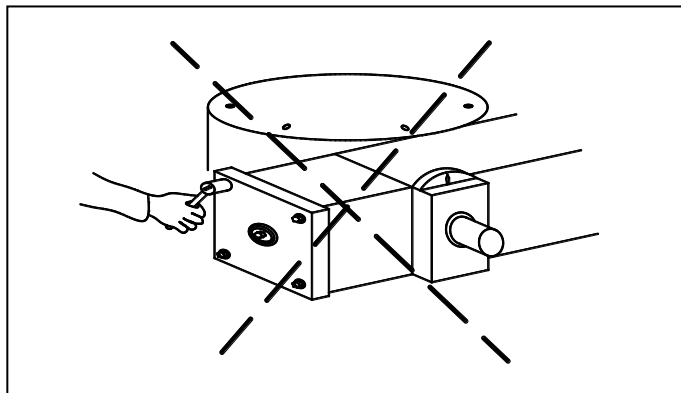

Figure 4.6d
- b. Do not disassemble a drive unit while there is stored energy, as shown in Figure 4.6d. Parts of it may release suddenly, when some of the fasteners are loosened, causing serious injuries and machine damage. This danger is greatest at the worm drive end cap where the spring is housed, which can burst away from the worm housing if the fasteners are unscrewed.